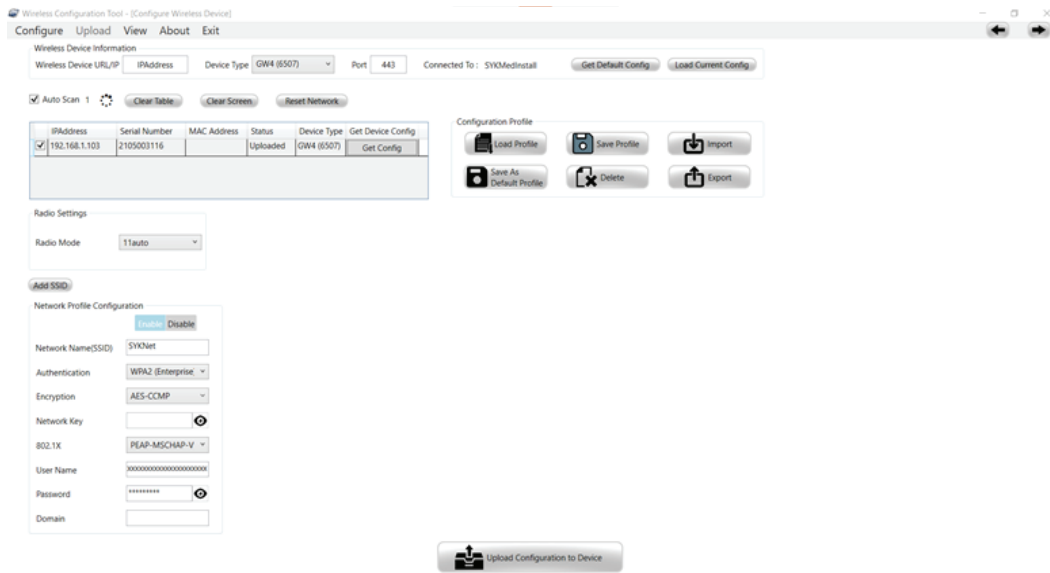

Figure 109 –
- In the bottom of the Wireless Configuration Tool window, enter the SSID information for the SSID to be added to the cot (Figure 109).